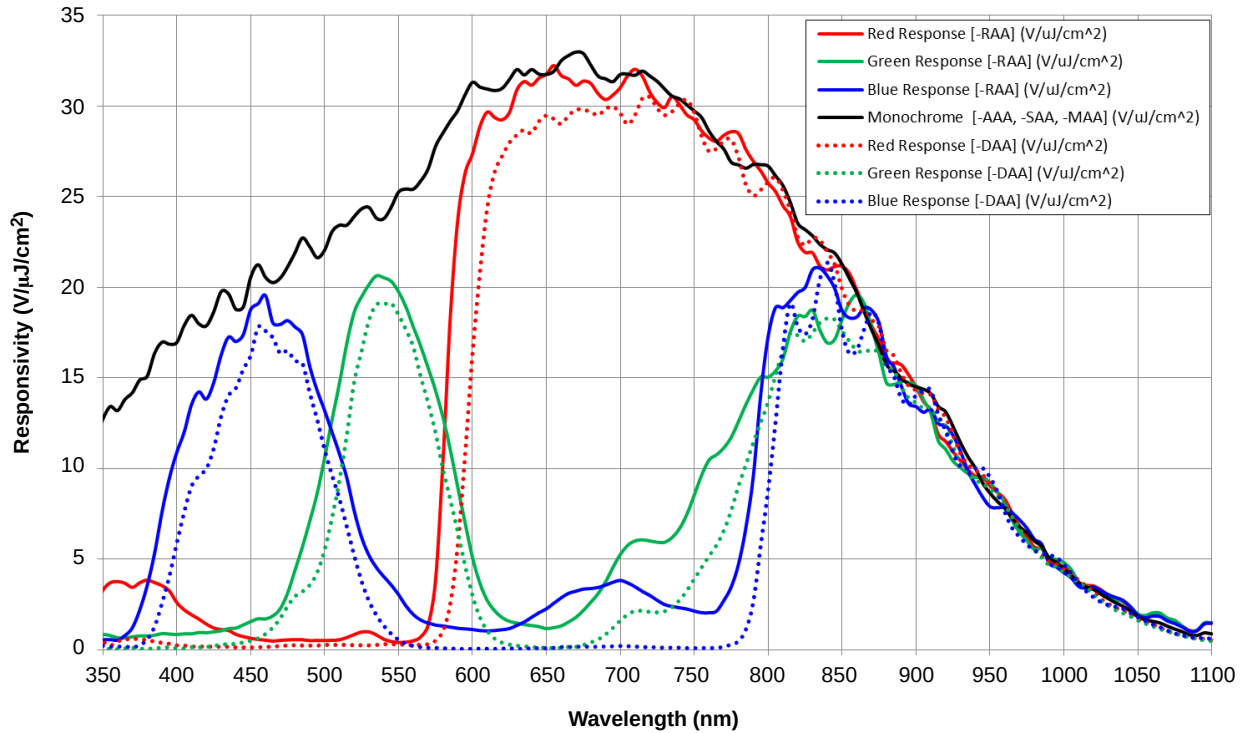

Figure 5. KLI-8023 Typical Responsivity
2. With color filter. Values specified at filter peaks. 50% bandwidth = ±30 nm. Color filter arrays become transparent after 710 nm. It is recommended that a suitable IR cut filter be used to maintain spectral balance and optimal MTF. See Figure 5.